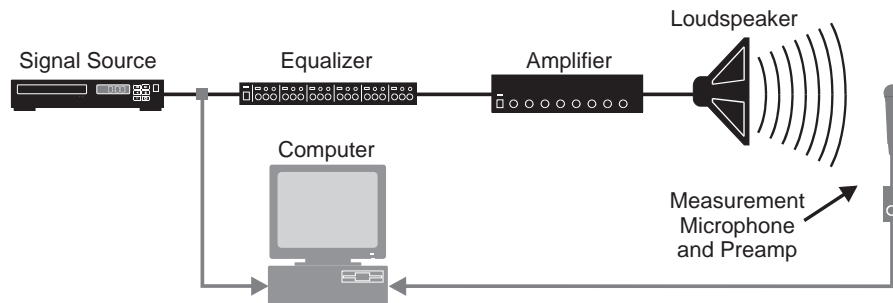

Figure 1: Typical Test Setup for Delay Locator Measurements
The Delay Locator calculates the impulse response mathematically, using two input signals from a *continuous* signal source. The mathematical technique used assumes that each of the two computer sound inputs is receiving the same signal but that the two signals are traversing different signal paths as in *Figure 1* below.
- ▶ Start with the Real-Time module in the 2-Channel (conventional real-time analyzer) mode. Ensure that the *Reference* (source) signal is on input channel #1 (represented by the light blue trace in the default display color scheme), and that the *Measurement* signal — the system output as returned by the microphone in Figure 1 above — is on input channel #0 (represented by the light green trace in the default color scheme).